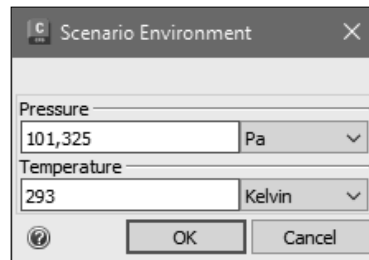

Figure-10. Scenario Environment dialog box
- Click on the **Scenario Environment** tool from **Materials** panel of **Setup** tab in **Ribbon**. The **Scenario Environment** dialog box will be displayed; refer to Figure-10.